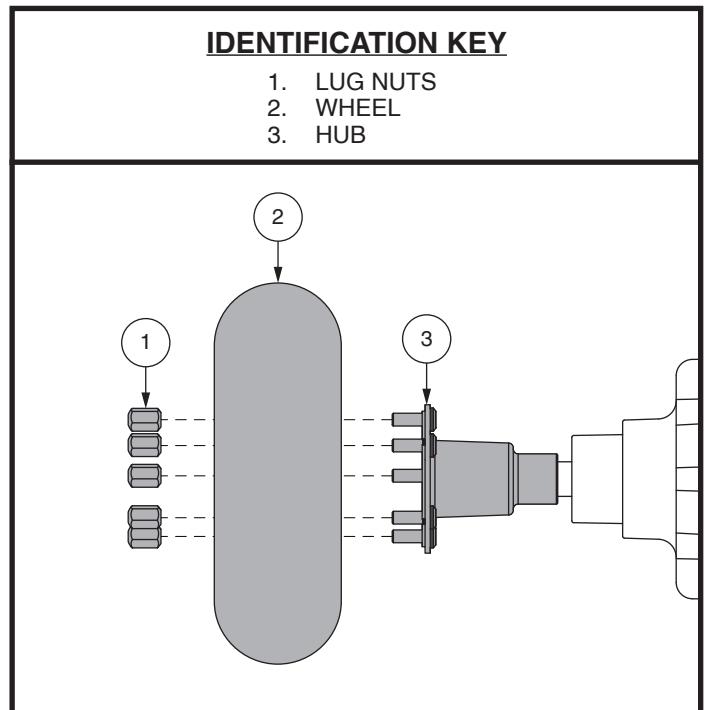

Figure 28. Wheel Replacement
4. Remove the lug nuts from the hub. **See figure 28.**